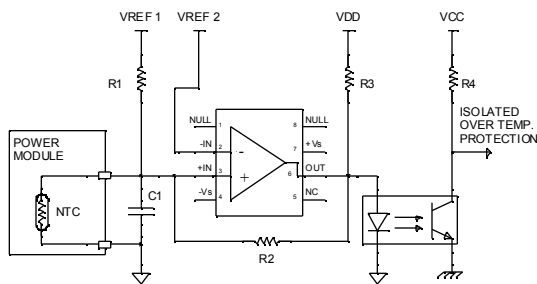

Fig 2: Example of NTC thermistor comparator circuit
The NTC thermistor can easily be used for module protection without computing the actual thermistor temperature. Comparing the voltage across the NTC thermistor to a reference voltage (see figure 2), and stopping the operation of the module if it becomes too hot reduces the risk of module failure.
If the NTC thermistor is placed in the bottom leg of a voltage divider as in figure 2, the resulting voltage at the input of the comparator decreases from almost VREF₁ to the voltage trigger level VREF₂ as the NTC thermistor temperature increases.
In practice, a comparator with hysteresis is used, and resistors R₁ and R₂ must be adjusted to set the amount of hysteresis. The hysteresis equals the output swing of the comparator attenuated by the resistive divider of R₁ // R_T and R₂. Assuming rail-to-rail output swing of the comparator in figure 2,
recommended to parallel a capacitor. This capacitor (C_1 in figure 2) must be between 10 to 100nF. Even using a 100nF decoupling capacitor, which guarantees a very high noise immunity level, the time constant at 25°C is only 400 microseconds, e.g., $\tau = (R_1 // R_T) \cdot C_1$, more than 1000 times lower than the time constant of the NTC thermistor itself. In most cases, a 10nF decoupling capacitor is more than enough to ensure good noise immunity.
We know the values of $B_{25/85}$, T_{25} , and R_{25} : for example 4080K, 298.15K, and 68kΩ respectively. Once we determine the value of R_T we can compute the temperature. Referring to figure 2, the voltage V_T across the NTC thermistor is
- The NTC thermistor is used in a comparator circuit, which is isolated from the control logic by an opto-coupler (see figure 2). Usually other protections like short-circuit, over-current, over-temperature, etc. are also performed at the switch level. The resulting fault signals can all be summed together and transmitted via the same opto-coupler.